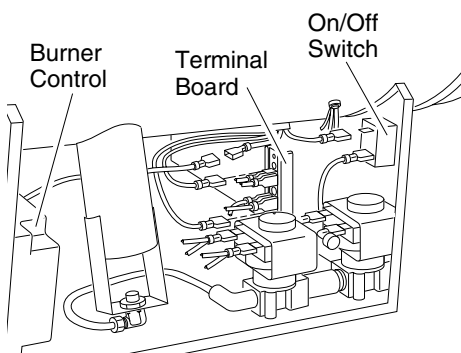

Figure 11 - Location of Motor Wires
3. Detach the four motor wires from parts under heater shell (see Figure 11). Be sure to detach only wires coming from motor. The four motor wires are:
21. Connect motor wires as follows (see Figure 11):